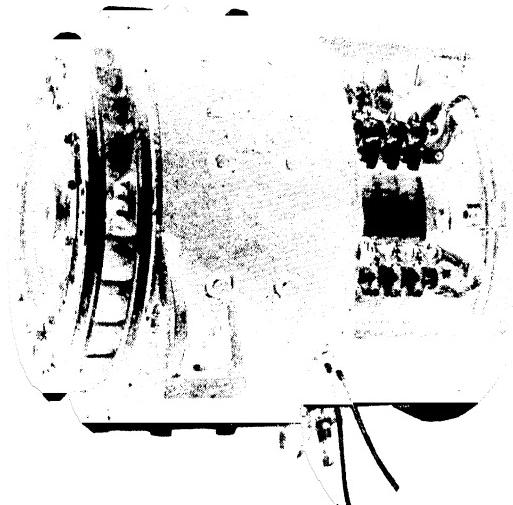

Fig. 2. G-E Direct-Current Traction Generator
**HEAVY-DUTY GENERATOR.** This modern traction generator, Fig. 2, gives the 65-tonner its smooth-operating characteristics. The doubly excited split field gives a generator characteristic that follows closely the Diesel-engine output. Thus, throttle response is quick and locomotive acceleration is both smooth and snappy.